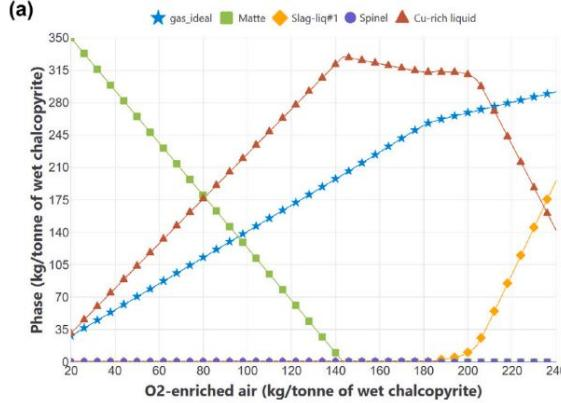

Fig. 10. (a) Phase assemblage evolution during the copper-making step (converter 2) as a function of the air injection in converter 2.
- 2\_3\_Copper-making\_Fig10
- Gas input (1)
- Copper input (2)
- SiO2 input (3)
- Smelter (4)
- Slag output (8)
- Converter (12)